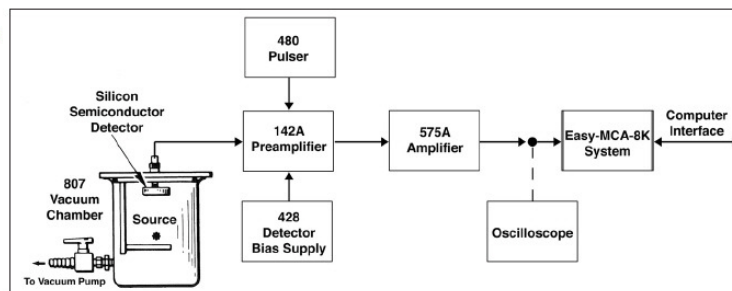

Fig. 5.5. System for the dE/dx Measurement.
1. Connect the equipment as shown in Fig. 5.5 according to the instructions in Experiment 4.